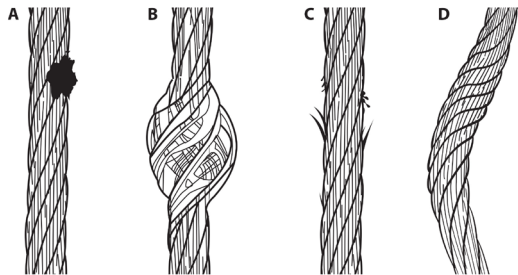

Figure 27: Inspection of Cable
Inspect the entire length of the constituent line up to the Green Maximum Working Length Visual Indicator shown in Figure 26. Review the cable lifeline closely for broken strand wires, welding spatter burns, welding slag, bird-caging, kinks and bent strands. Also examine for rust, dirt, paint, grease or oil. Check for damage caused by chemical corrosion or excessive heat as evident with discoloration. See Figure 27 for examples. If any of these conditions exist, remove the SRD from service.
Extract all of the cable and check the entire working length for damage caused by chemical corrosion or excessive heat as evident by discoloration (A), bird caging (B), broken wire strands (C), kinks and bent strands (D), see Figure 27. The cable should retract completely without faltering and should remain taut under tension without sagging.
<p>Inspect the entire length of the constituent line up to the Green Maximum Working Length Visual Indicator shown in Figure 26. Review the rope lifeline closely for broken strands, welding spatter burns, welding slag, abrasion damage, glazing, changes in or variable rope diameter, discoloration, changes in flexibility, kinking, or hockling. Also examine for rust, dirt, paint, grease or oil. Check for damage caused by chemical corrosion or excessive heat as evident with discoloration. See Figure 27 for examples. If any of these conditions exist, remove the SRD from service.</p> <ul style="list-style-type: none"> • Abrasion: Rupture or fraying of fibers due to wear and/or due to motion against other fibers, rope components, or a contact surface. • Glazing: A fusing or melting of the fibers that gives a hard glassy surface due to overheating or excessive friction over a surface or the rope itself. • Diameter Integrity: An increase or decrease in rope diameter due to excessive abrasion, glazing, foreign objects in the core, or reduction in core size due to broken fibers. • Discoloration: Fading, streaking, or staining due to chemical, UV, environment, or other outside agents that may cause a reduction of strength of the rope. • Flexibility: A loss in the ability to bend for the type and construction of the rope, hard or soft spots. • Core Fiber Exposure: The core from the center of the rope may work itself through the cover and may cause a loss of strength and the ability of the rope to function over a sheave. • Kinking or Hockling: A short twist, curl, or bend in one or more of the yard or rope strands, will cause a reduction in rope strength. It may be possible to work the kink out, but if the strand is still distorted the strength reduction will occur.